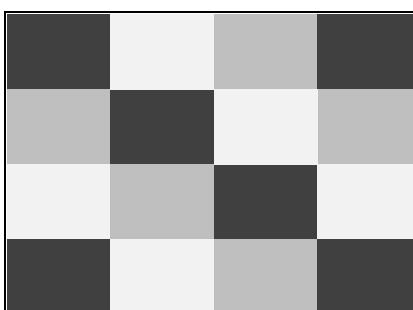

Figure 4-2. Display Test Pattern
6. Press **CALIBRATE**. The Test Tool shows a dark display; the test pattern as shown in Figure 4-2 may be not visible or hardly visible.
The Test Tool shows the display test pattern shown in Figure 4-2, at default contrast.
The Test Tool shows a light display; the test pattern as shown in Figure 4-2 may not be visible or hardly visible.